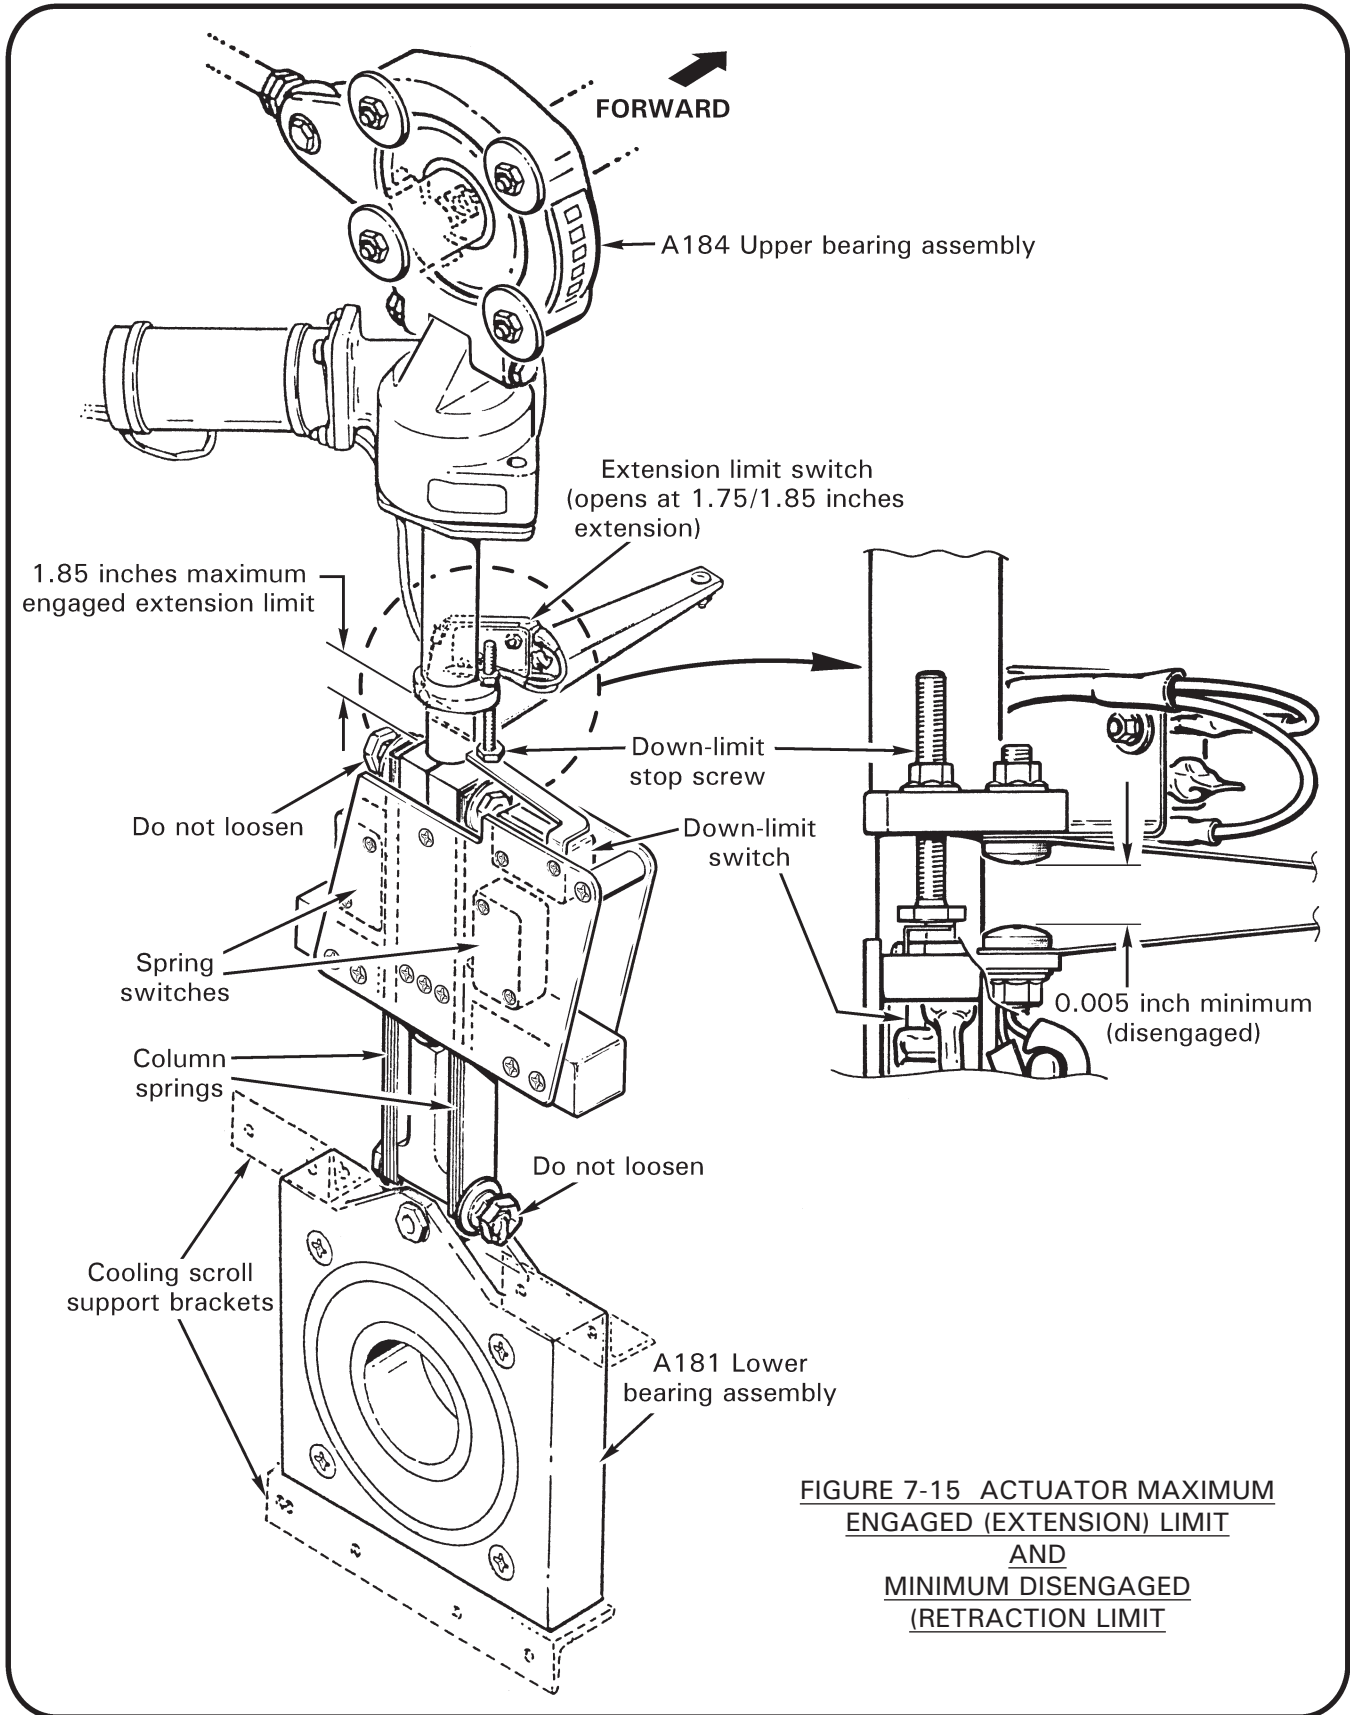

FIGURE 7-15 ACTUATOR MAXIMUM ENGAGED (EXTENSION) LIMIT AND MINIMUM DISENGAGED (RETRACTION LIMIT)
2. Disengaged Down-Limit Adjustment (see Figure 7-15)
3. Maximum Extension (see Figure 7-15)